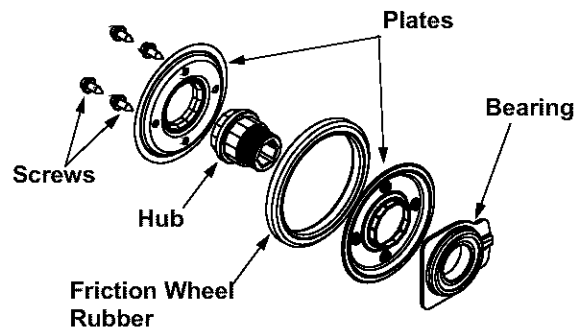

Figure 21
- Remove the four screws from the friction wheel assembly. Remove the friction wheel rubber from between the plates. See Figure 21.